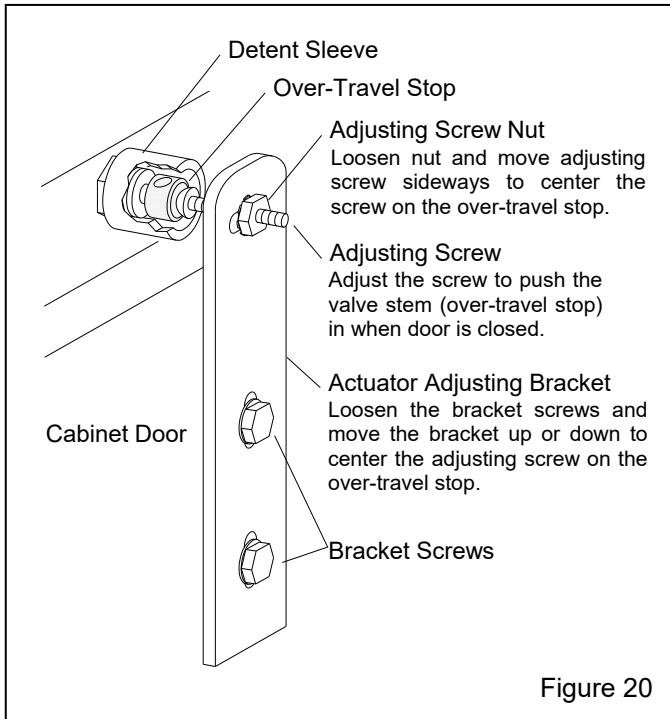

Figure 20
5.7 Door Interlocks – Figure 20